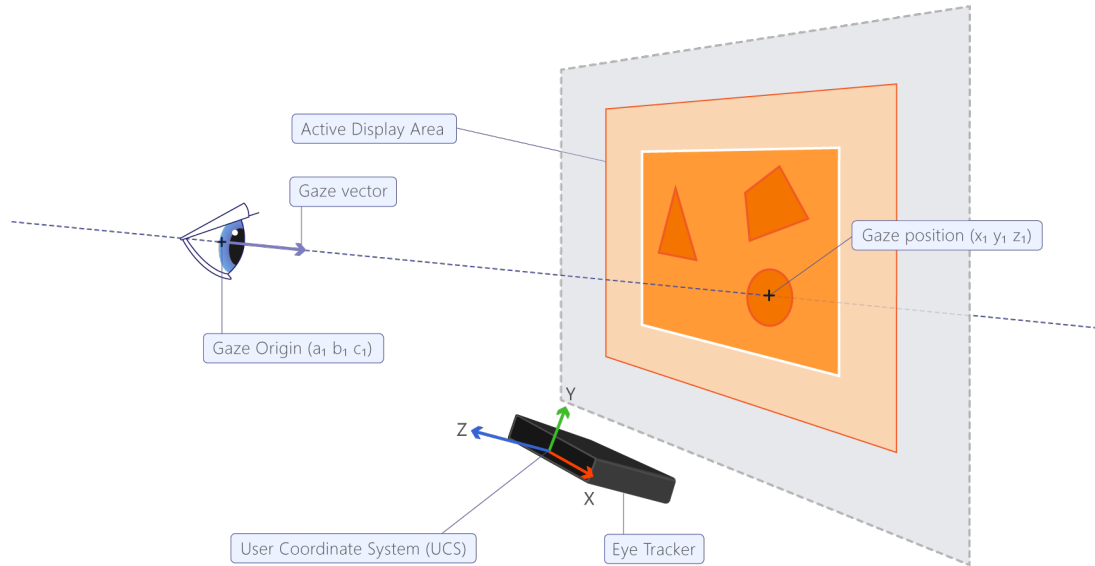

Figure 4.2: The User Coordinate System (UCS). Figure source: Tobii
When using Tobii Pro SDK, much more values are provided and can be logged to the output file. This includes the pupil diameters of each eye as well as the eye positions in space. The latter uses a coordinate system which is called *User Coordinate System (UCS)*. The UCS is illustrated in Figure 4.2.
4. 3D gaze point UCS coordinates (see Figure 4.2) in millimeters
5. gaze origin UCS coordinates (see Figure 4.2) in millimetres